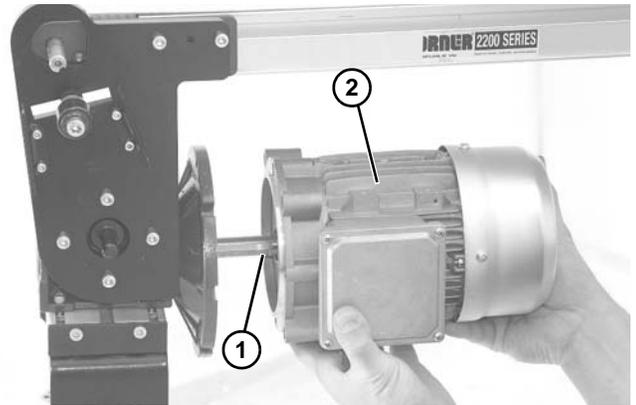

Figure 45
2. Apply anti-seize to motor shaft before assembling to gearbox. With key (**Figure 45, item 1**) in keyway, slide motor (**Figure 45, item 2**) and gear reducer together. Install screws and tighten.